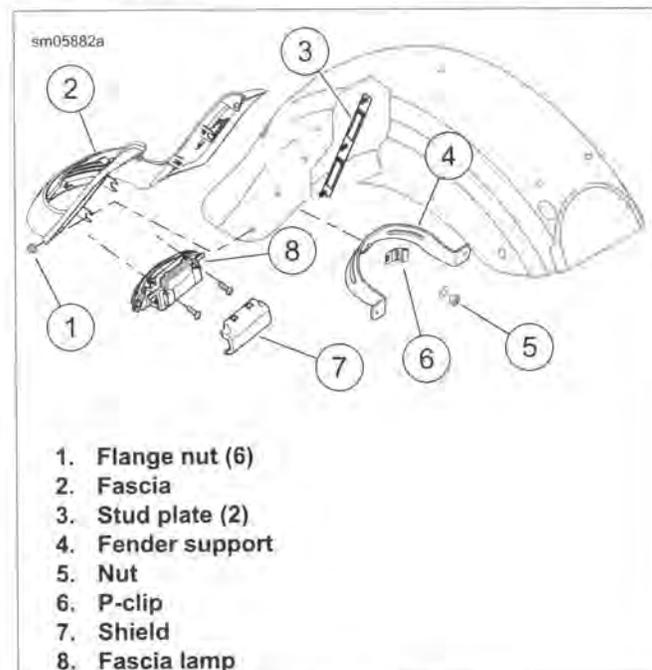

Figure 2-165. Rear Fascia
2. See Figure 2-165. Remove six flange nuts (1).
5. Remove shield (7). Disconnect rear lamps harness and tail lamp jumper from fascia lamp (8).
6. Loosen nut (5).
7. Spread top of fascia (2) and pull downward to release fascia from fender. Remove fascia lamp if necessary.
2. See Figure 2-165. Insert flange at top of fascia between support (4) and fender. Tighten nut (5) to 45-85 in-lbs (5.1-9.6 Nm). Spread top of fascia to engage top studs.
3. Apply a drop of LOCTITE 243 MEDIUM STRENGTH THREADLOCKER AND SEALANT (blue) to threads of each stud. Install flange nuts (1). Tighten to 30-45 in-lbs (3.4-5.1 Nm).
4. Secure rear lamps harness in molded clips of left fascia. Connect harness to fascia lamp. Connect tail lamp jumper to fascia lamp. Install shield (7).
2. See Figure 2-165. Remove rear fascia (2).
3. Remove screws and nuts securing fender support (4) to saddlebag support on both sides. Remove nut (5), flat washer and P-clamp (6). Remove support.
1. See Figure 2-165. Install new stud plate (3).
2. Install fender support (4).
- a. Install P-clamp (6), washer and nut (5). Tighten to 45-85 in-lbs (5.1-9.6 Nm).